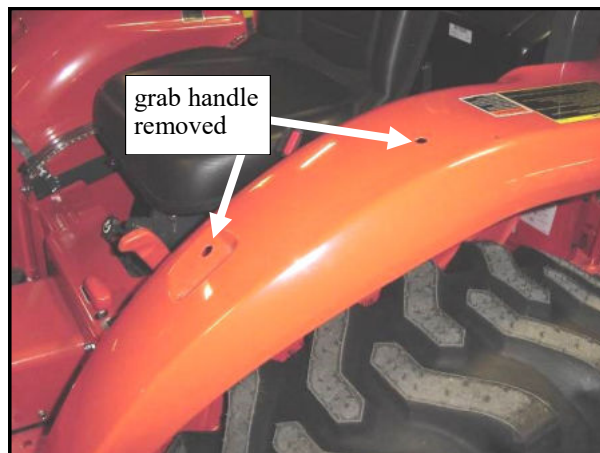

Fig. 1.1 (view from left side of tractor)
1.1 Per figures 1.1 and 1.1a, remove the grab handle from the left side of the tractor as shown. The grab handle does not get re-installed with the cab in place. Save for re-use should the cab ever be removed.